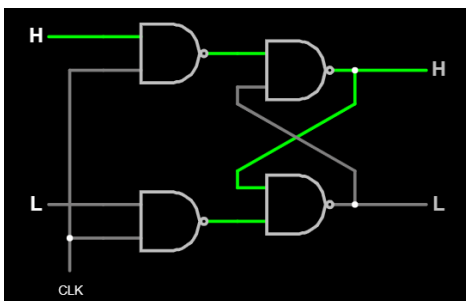

Fig. 1. SR Latch
To understand how a Master-Slave DFF works, first look at the Set-Reset (SR) Flip-Flop, which can be found in Figure 1.